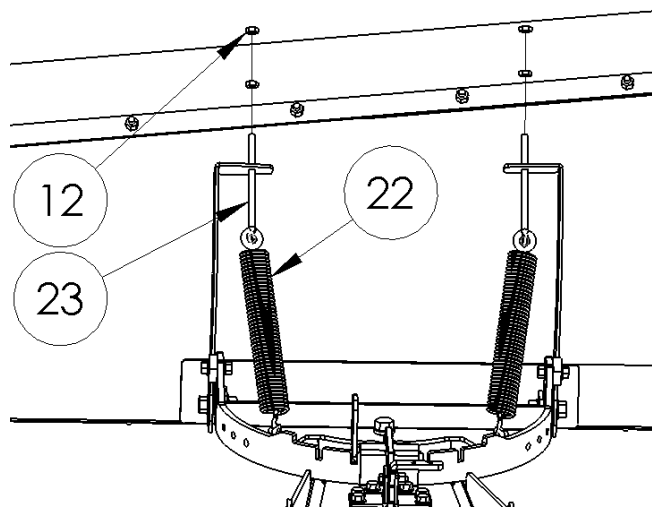

Figure 14
- 12) Install your Blade Return Springs (#22) using the Eye Bolts (#23) and 3/8" Regular Nuts (#12) included in your kit. The spring eyelet inserts into the Swivel Plate on one end and into the 6" Eye Bolt on the other end (**Figure 14**). Tighten the 3/8" (#12) Regular Nuts to add tension to the springs. If your blade tends to tip forward while plowing you can increase the tension to hold the blade upright.